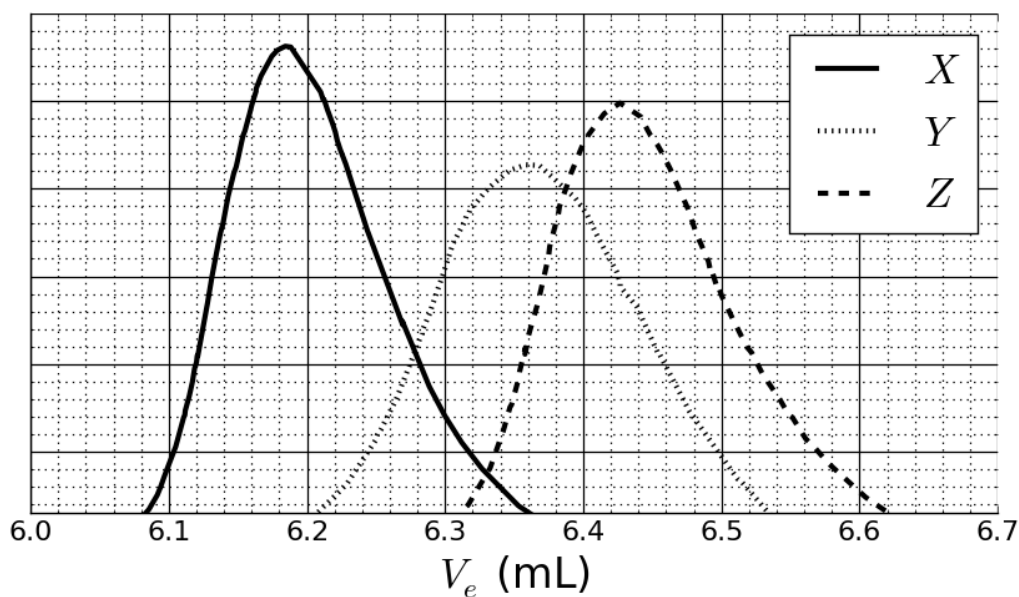

Fig. 2 – SEC chromatograms of **3a**, **3b** and **3c** as a function of the elution volume,  $V_e$ .
This reaction of **1** with **2** yielded the copolymers **3a** after 20 h, **3b** after 25 h and **3c** after 30 h of reaction at 40 °C. Results of size-exclusion chromatography (SEC) experiments are found in Fig. 2.
6. **Match** the signals in Fig. 2 with the copolymers **3a**, **3b** and **3c**.
7. Based on the SEC curves in Fig. 2 and Fig. 3, **determine**  $V_e$  of the polymer that corresponds to curve X and use it to **estimate** the degree of polymerization  $m$  of its second block. **Provide ALL** your calculation; you may use a calculator or plot a graph.